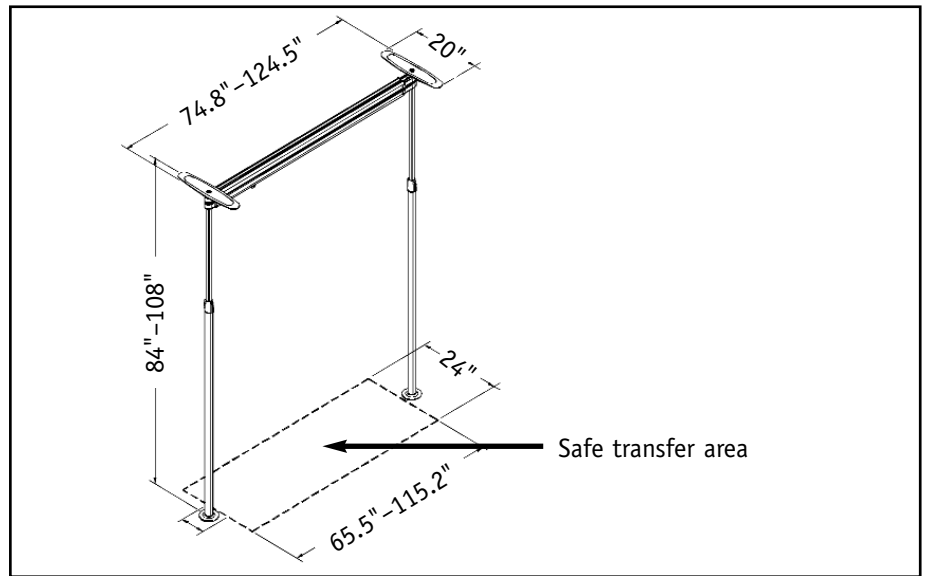

Figure 3
- d. Transfers should only take place between the Easytrack System posts (Figure 3).